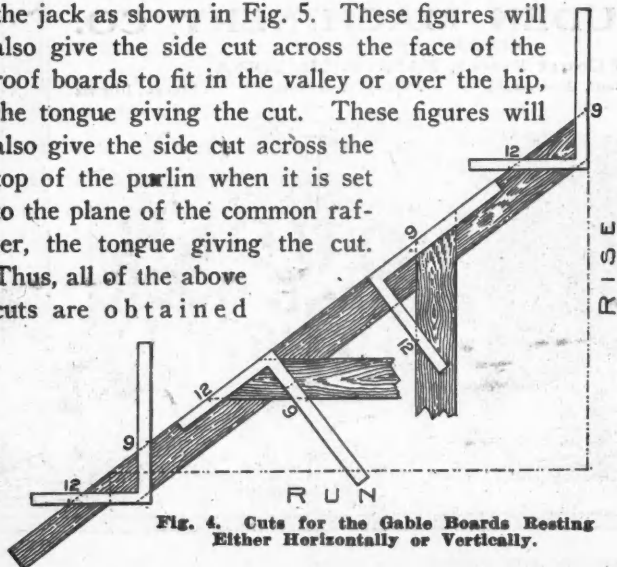
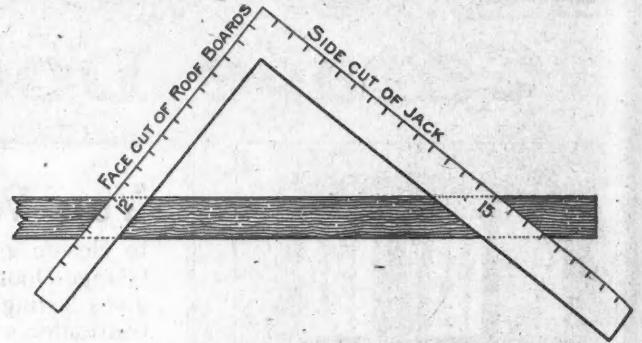

Fig. 4. Cuts for the Gable Boards Resting Either Horizontally or Vertically.
Fig. 5. Taking the Length of the Common Rafter on the Blade and the Tangent on the Tongue Gives the Side Cut of the Jack on the Blade.
For example, we will take a  $\frac{3}{8}$  pitch. Take 9 on the blade. Why? Because, the run being 12 inches, the span must be two times 12, which equals 24, and since the pitch is reckoned by the span, we find that  $\frac{3}{8}$  of 24 is 9, and therefore represents the rise to the foot run. Then 12 and 9 give the seat and plumb cut of the common rafter. They also give the cuts for the gable boards resting either horizontally or perpendicular, as shown in Fig. 4. Take the length of the common rafter (15) on the blade and the tangent (12) on the tongue, and the blade will give the side cut of the jack as shown in Fig. 5. These figures will also give the side cut across the face of the roof boards to fit in the valley or over the hip, the tongue giving the cut. These figures will also give the side cut across the top of the purlin when it is set to the plane of the common rafter, the tongue giving the cut. Thus, all of the above cuts are obtained